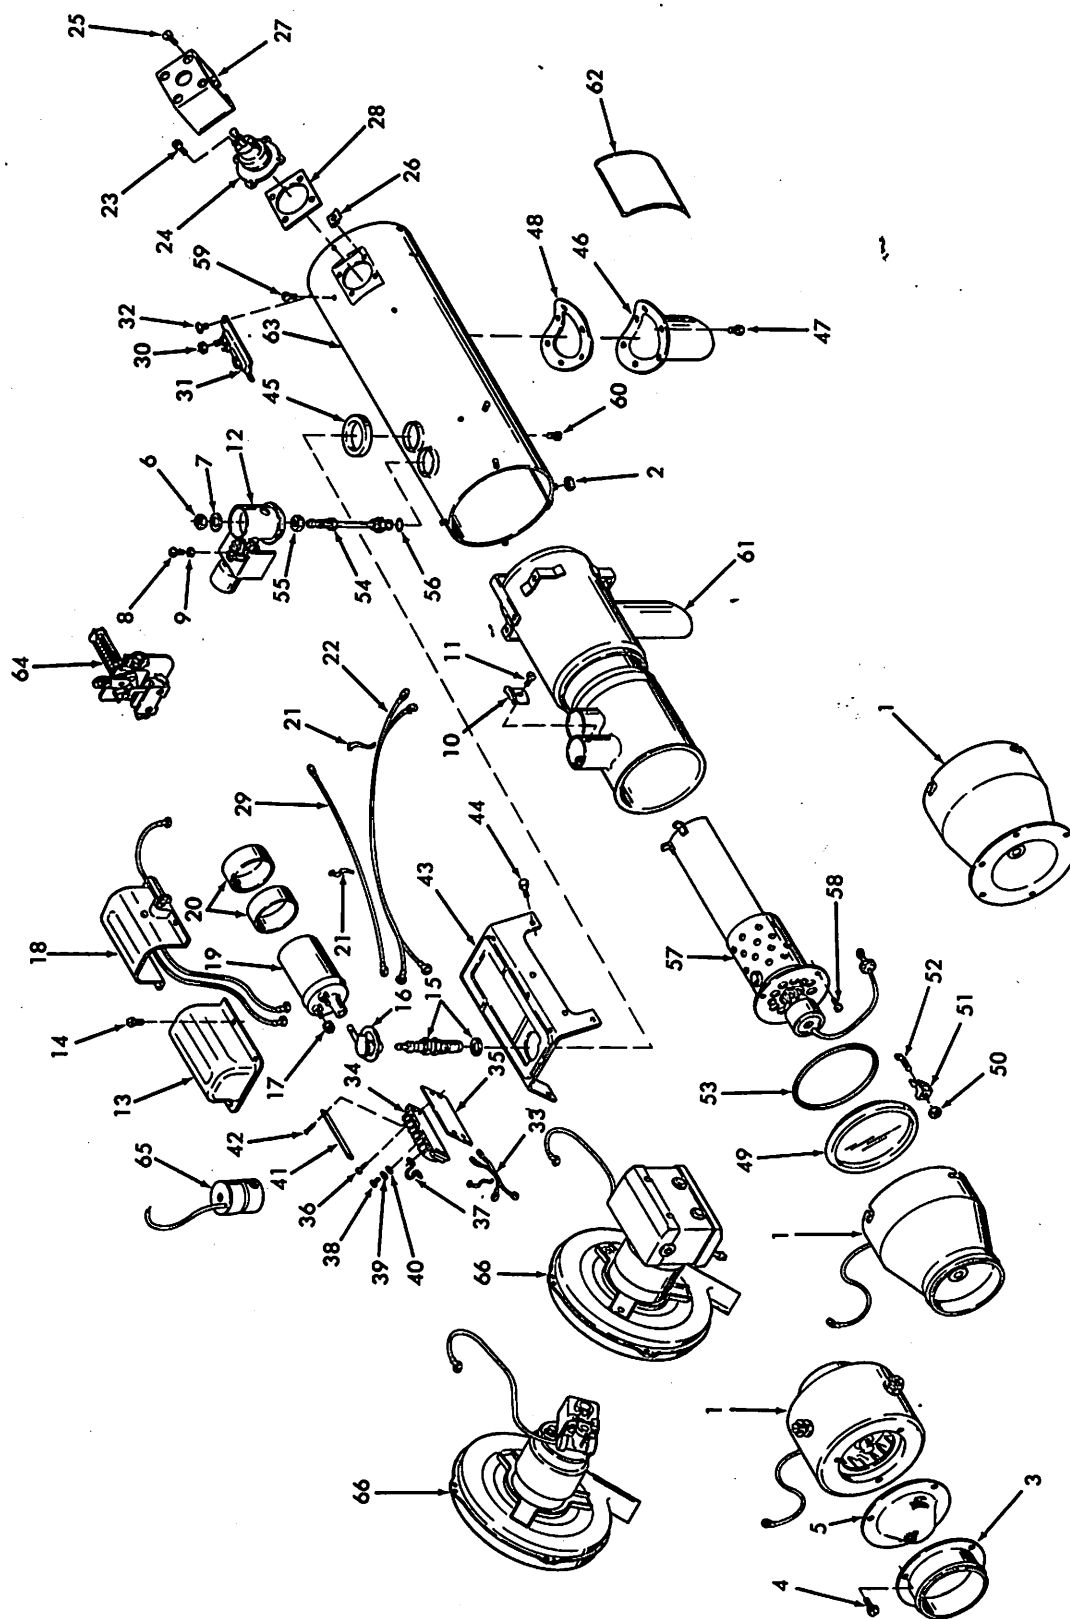

Figure 4-1. Aircraft Heater, Exploded View
4-4. HEATER DISASSEMBLY (See figure 4-1)
Legend for Figure 4-1.
a. Inspect the heat exchanger (61, figure 4-1) for leaks, cracks, clogged drain openings, and carbon deposits. The interior will normally contain a deposit of lead by-products. Remove as much of this as possible, with a flexible scraper. Remove combustion residue from inside heat exchanger by soaking this assembly in a 20 percent by weight solution of ammonium acetate at a temperature of 180°F, for a period of 5 to 10 hours. Flush out exchanger with water after cleaning, and dry with compressed air.